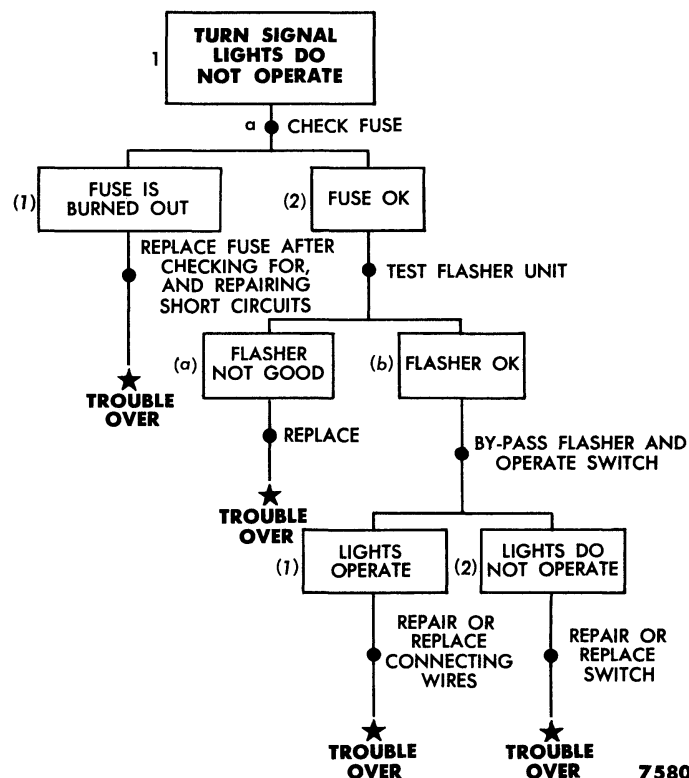

Fig. 2—Turn Signal Trouble Shooting—"Road Map"
(1) **TURN SIGNAL LIGHTS DO NOT OPERATE.** The fuse may be blown out, the flasher may be defective, the switch and wiring may be defective, or the lights may be burned out. Figure 2 shows a "road map" for this symptom. Before any testing is done, turn the ignition switch key to the "ACC" Position.